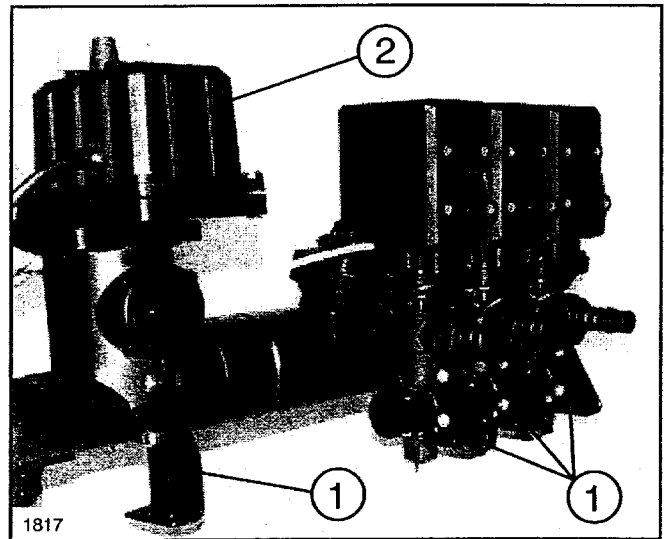
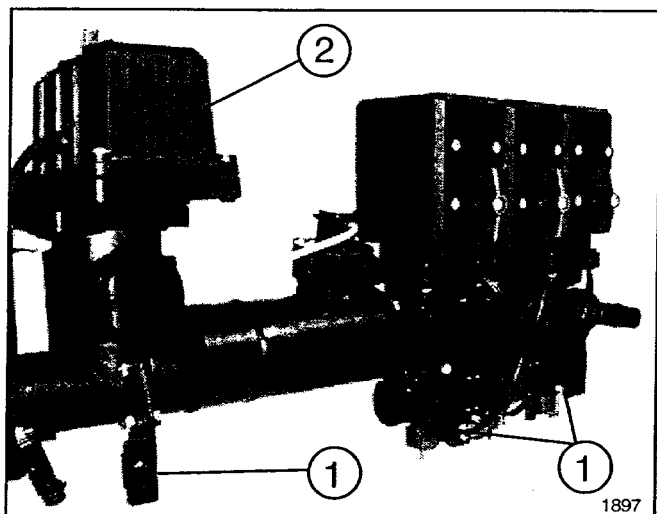

FIG. 3
FIG. 3A
5. Remove and discard the four (4) existing Mounting Brackets from the Control Valve Assembly. Using existing hardware, attach the three (3) Mounting Brackets (provided in Parts Bag) to the Control Valve Assembly. (See FIG. 3 above and FIG. 3A, page13)